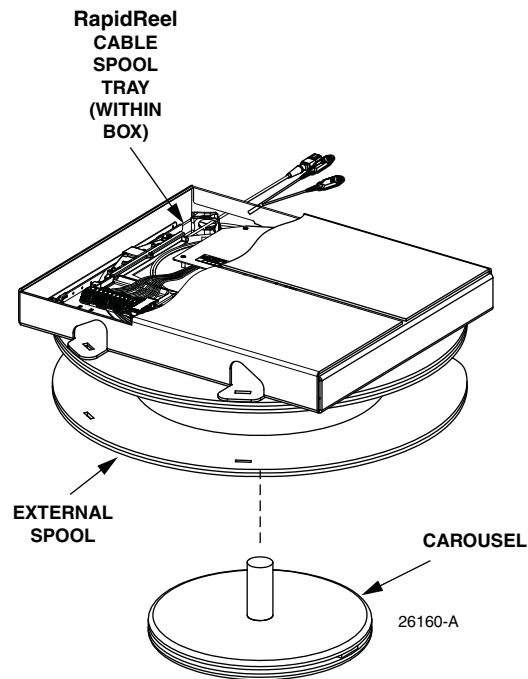

Figure 30. External Spool Placed on Carousel
- **Note:** The external spool (with attached RapidReel cable spool tray) is pre-mounted on the carousel as shown in Figure 30.